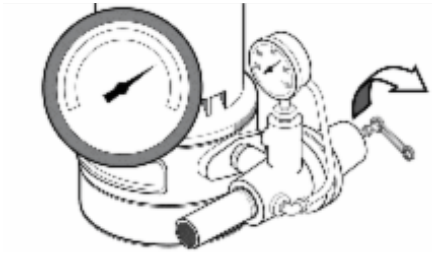
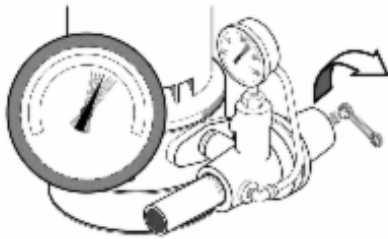
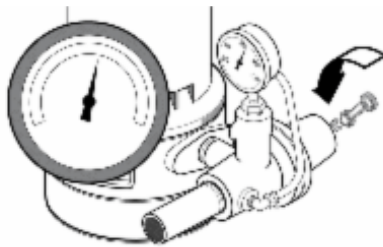

Figure 17A: Open Regulator Valve
Figure 17B: Watch for Pressure Gauge to Flutter
Figure 17C: Close Regulator Valve until Pressure Stabilizes
4. Once unit has primed and pressure stabilized, slowly open (turn counterclockwise - Figure 17A) regulator valve until pressure falters (pressure gauge needle flutters; pump may become noisy - see Figure 17B). At this point, close (turn clockwise) regulator valve slightly until pressure stabilizes. This setting provides maximum flow (Figure 17C).